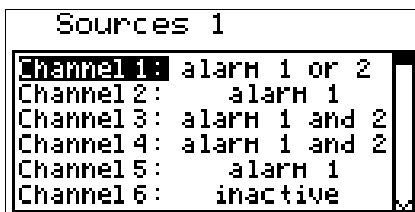

Fig. 7.18. Submenu "Source" in menu „Outputs settings”.
**"Source"** - brings up a submenu with alarm sources settings (**Fig. 7.18**). The following options are available for each channel: